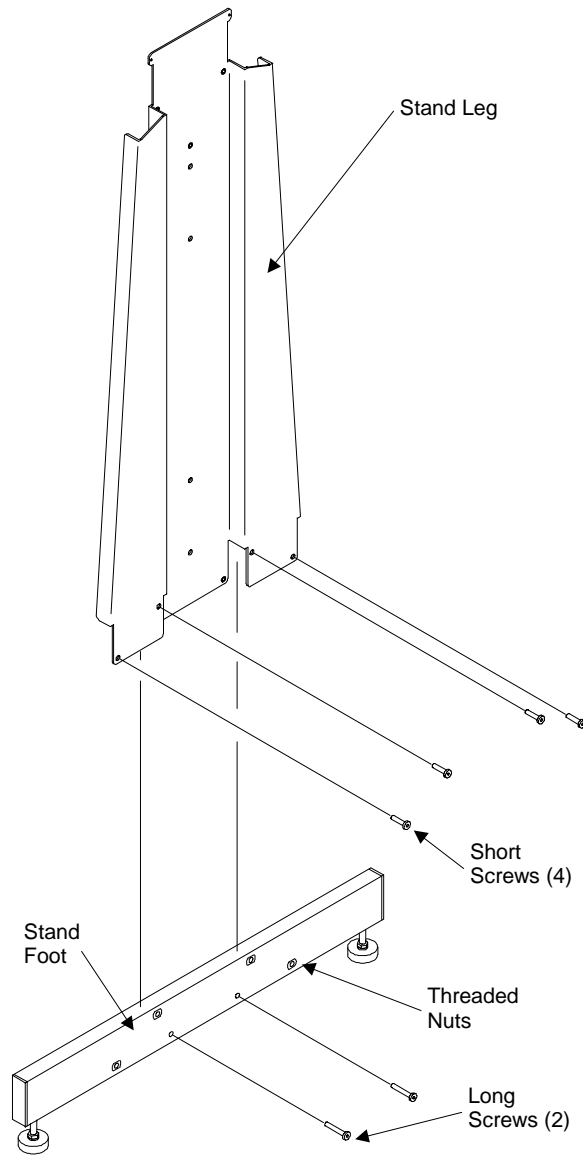

Figure 2. Attaching a Stand Foot to a Stand Leg
1. Use two of the long screws and four of the short screws (and the supplied hex wrench) to attach a stand foot to one of the stand legs. Note the orientation of the threaded nuts on the stand foot and the position of each of the screws in Figure 2. Slip the stand leg over the foot and then insert the four short screws through the outer leg flanges and into the threaded nuts in the foot. Insert the two long screws directly into the middle holes in the stand foot.